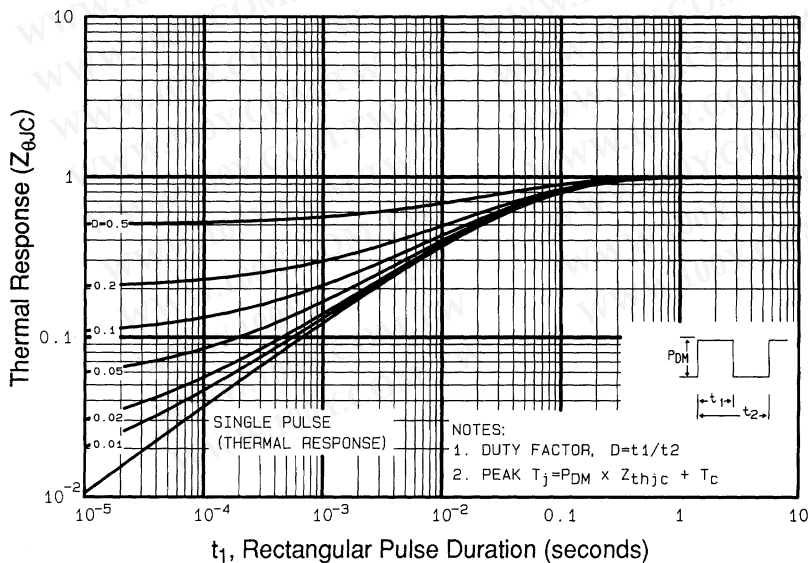

Fig 11. Maximum Effective Transient Thermal Impedance, Junction-to-Case
- ① Repetitive rating; pulse width limited by max. junction temperature. (See fig. 11)
- ② $V_{DD} = 50V$, starting $T_J = 25^\circ\text{C}$, $L = 27mH$
$R_G = 25\Omega$, $I_{AS} = 6.2A$. (See Figure 11)